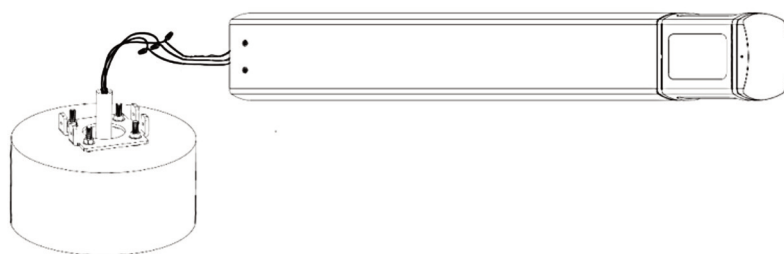

Fig. 7
- 7.) Once the cement is dry, lay the fixture flat on a soft surface to prevent scratching or damaging. Connect the driver input leads coming out of the bottom of the fixture to the power supply leads from the conduit in the ground (refer to **Fig. 7**).